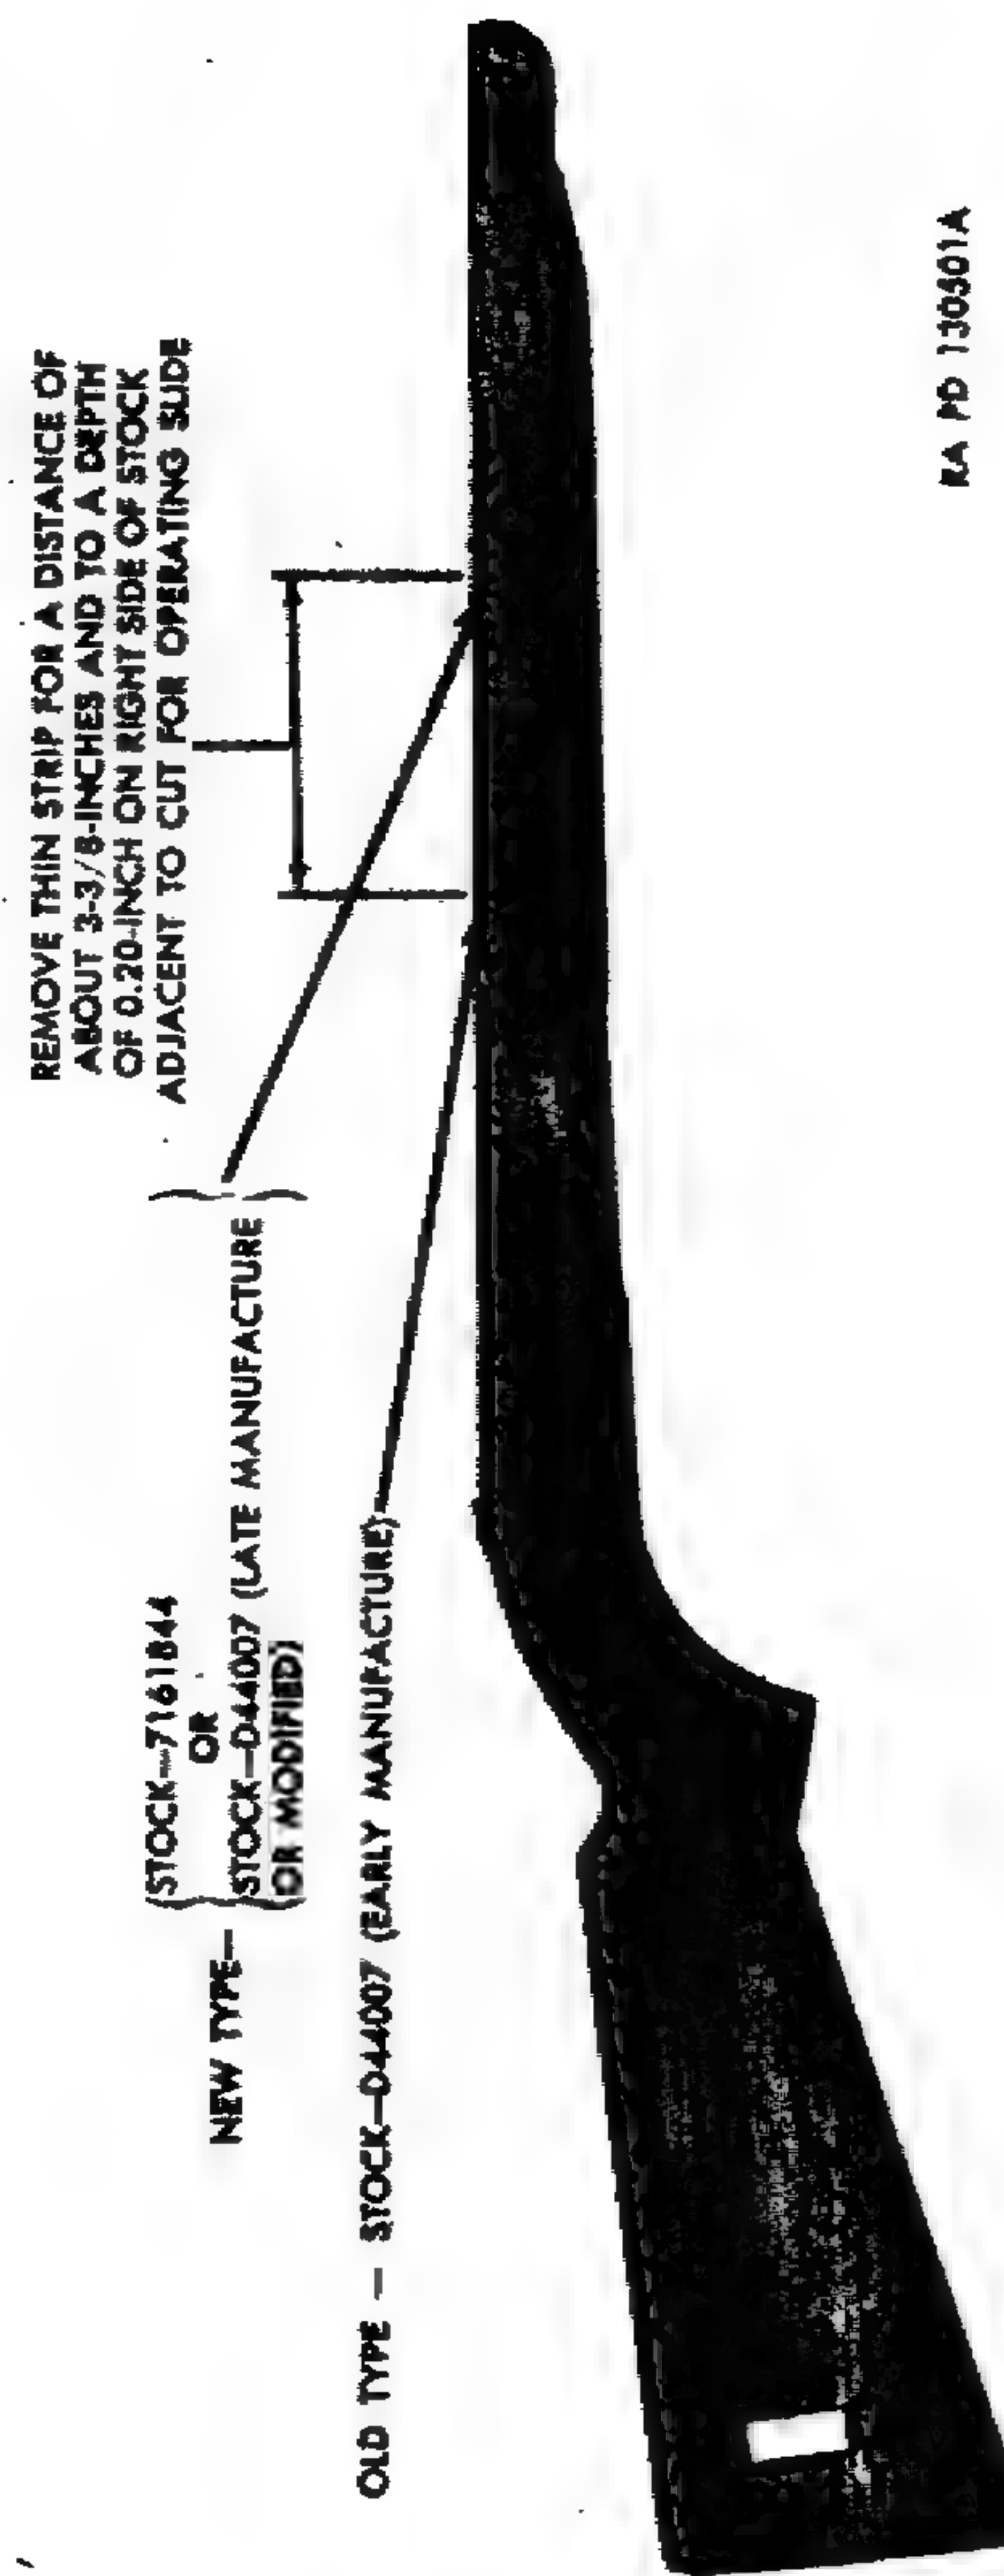

Figure 104. Modification of stock D44007 of early manufacture (Carbine M1).
e. *Stock Modification.* Carbine M1 stocks of stock assemblies C57157 of early manufacture were made with a thin section on the right side where the operating slide bar passes to the right side of the receiver. This thin strip should be removed in order to prevent cracks from starting in this area. The stock should be cut down as shown in figure 104.